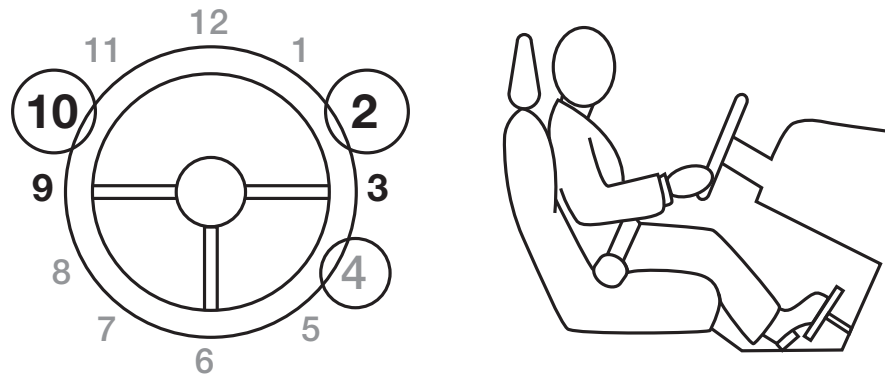

Figure 3-1. Steering Wheel Positions and Seat Adjustment.
- Visualize your steering wheel as a numbered clock face. Adjust the seat so that you can comfortably place your hands on the steering wheel at the 10 and 2, or 9 and 3, positions (see Figure 3-1).
- With your right hand on the 4 o'clock position, move your seat until your right elbow rests comfortably on your rib cage at a distance of 2 inches (or two fingers) from the seat back (see Figure 3-1). In this position, your body becomes a support system should there be an impact or other unexpected event.